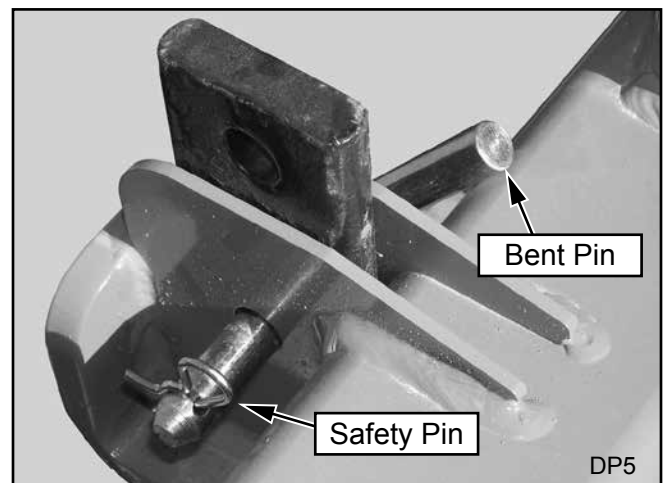

Figure 7. Scarifier Shank Adjustment
3. Remove safety pin and bent pin. Adjust scarifier to desired position, Figure 7.
3. Remove safety pin and bent pin from scarifier mount. (Figure 7)